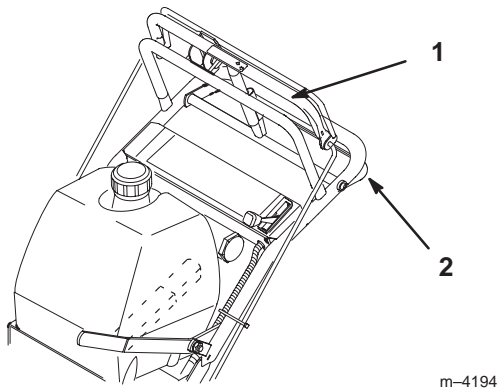

Figure 16
3. Slowly press on the upper control bar to move forward (Fig. 16).
To go straight, apply equal pressure to both ends of the upper control bar (Fig. 16).
To turn, release pressure on the upper control bar side toward the direction you want to turn (Fig. 16).
3. Slowly squeeze on the lower control bar and handle together to move rearward (Fig. 16).